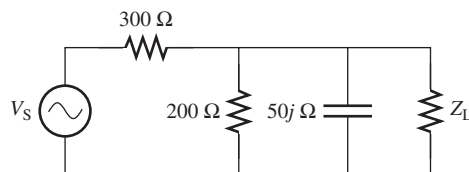

FIGURE P6.48 Circuit for Problem 6.48.
- 6.48 (A) Sketch the Thévenin and Norton equivalent circuits for the circuit shown in Figure P6.48, where $V_S = 20\angle 30^\circ$.